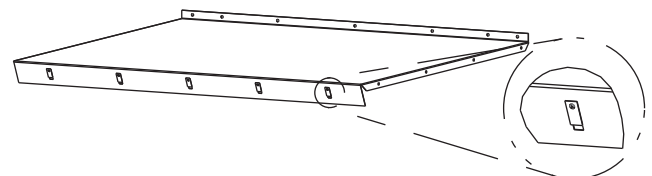

Fig. 18 — Top Hood with Speed Clips
4. Attach speed clips (provided) to hood top. Engagement section of the clip faces inside hood. See Fig. 18.